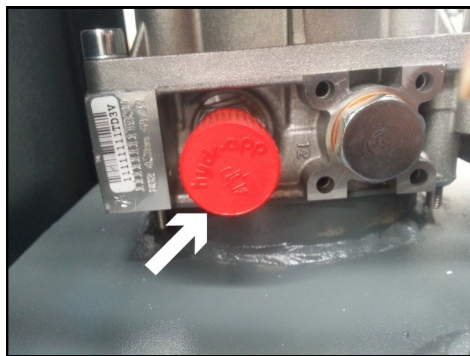

Fig. 9
- In the condition of over loading, the over-falling valve will open and directly return oil to the oil tank. (Fig. 9)